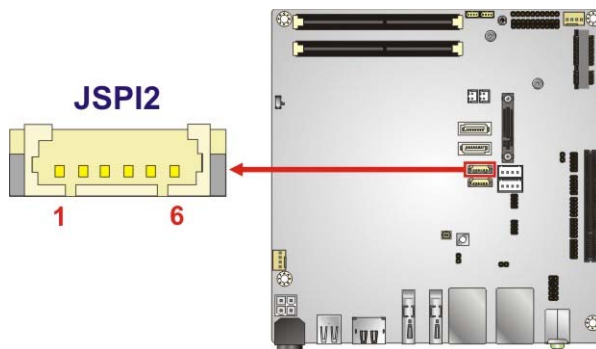

Figure 3-23: SPI Flash Connector Location
- CN Location:** See **Figure 3-23**